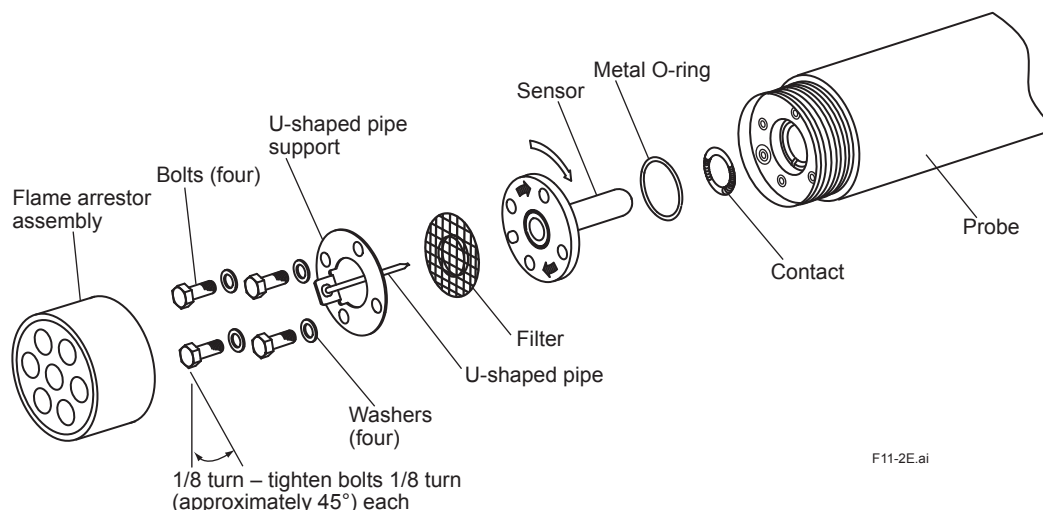

Figure 4.2 Exploded View of Sensor Assembly
- (1) Remove the detector from the installation assembly. Remove the Flame Arrestor Assembly from Sensor Assembly (See Figure 4.2)
- (2) Following Subsection 4.1.2, later in this manual, remove the four bolts (and associated spring washers) that tighten the sensor assembly, and the pipe support as well as the U-shaped pipe.
- (3) Use a rod 2 to 2.5 mm in diameter to clean the calibration gas tube inside the probe. In doing this, keep air flowing from the calibration gas inlet at about 600 ml/min and insert the rod into the tube (3-mm inside diameter). However, be careful not to insert the rod deeper than 40 cm for a general-purpose detector, or 15 cm for a high temperature detector.
- (4) Clean the U-shaped pipe. The pipe can be rinsed with water. However, it should be dried out thoroughly before reassembly.
- (5) Restore all components you removed for cleaning. Follow Subsection 4.1.2 to restore all components in their original positions. Be sure to replace the O-ring(s) with new ones.